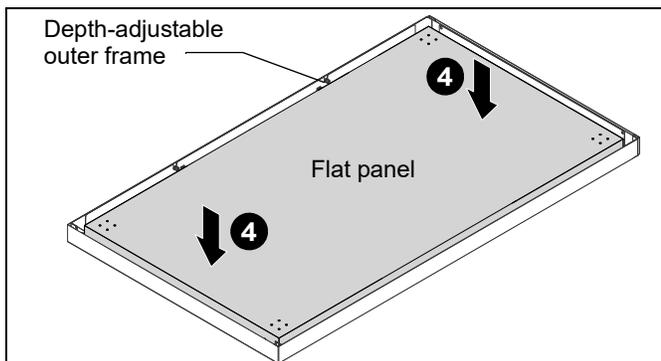

Figure 8
- Carefully lay flat panel face down into the depth-adjustable outer frame. (See Figure 8)